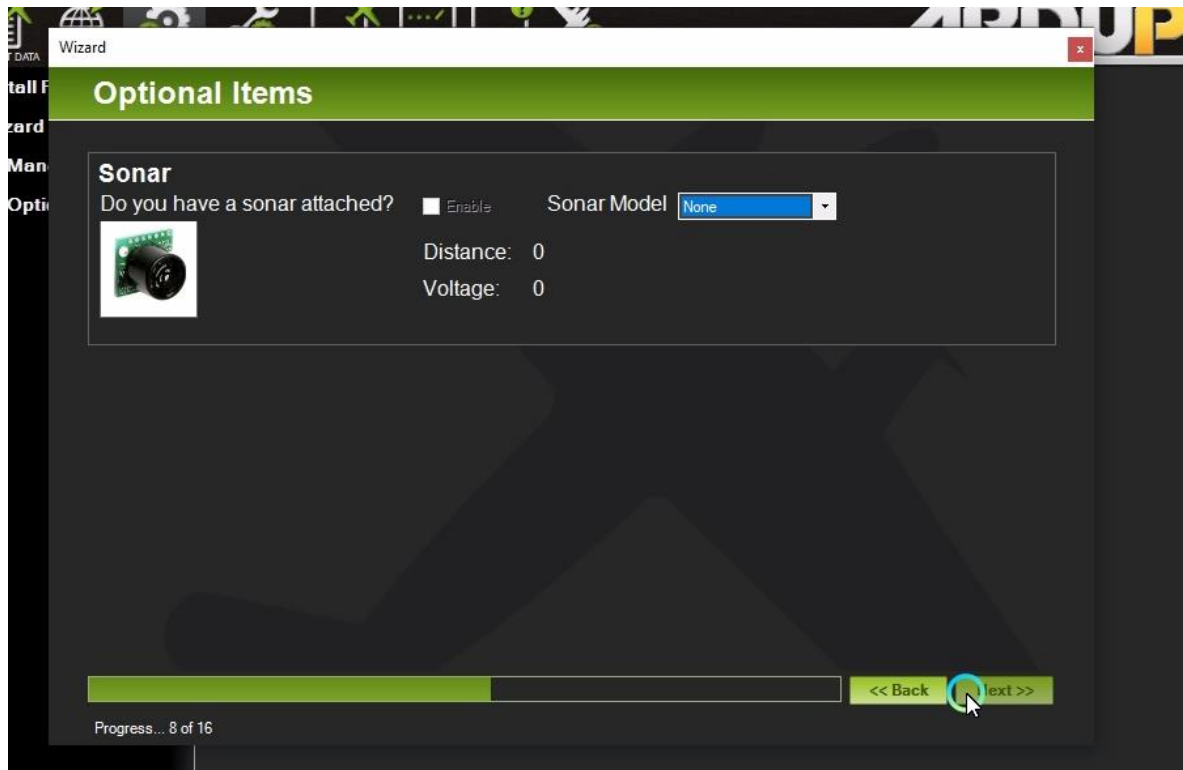

Fig.4.11
- We are not going to attach any sonar sensor so keep it as none. Click Next. Refer Fig.4.11.